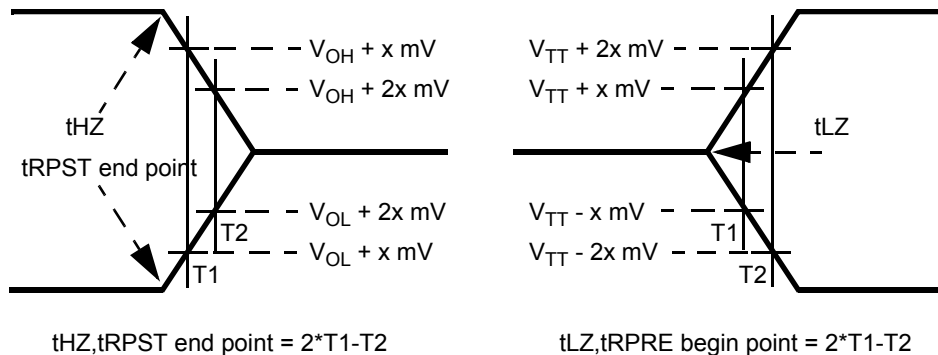

Figure 19. Method for calculating transitions and endpoints
- tDAL = 4 + (15 ns / 3.75 ns) clocks = 4 + (4) clocks = 8 clocks.
18. tHZ and tLZ transitions occur in the same access time as valid data transitions. These parameters are referenced to a specific voltage level which specifies when the device output is no longer driving (tHZ), or begins driving (tLZ) . Figure 19 shows a method to calculate the point when device is no longer driving (tHZ), or begins driving (tLZ) by measuring the signal at two different voltages. The actual voltage measurement points are not critical as long as the calculation is consistent. tLZ(DQ) refers to tLZ of the DQS and tLZ(DQS) refers to tLZ of the (U/L/R)DQS and (U/L/R)DQS each treated as single-ended signal.
19. tRPST end point and tRPRE begin point are not referenced to a specific voltage level but specify when the device output is no longer driving (tRPST), or begins driving (tRPRE). Figure 19 shows a method to calculate these points when the device is no longer driving (tRPST), or begins driving (tRPRE) by measuring the signal at two different voltages. The actual voltage measurement points are not critical as long as the calculation is consistent.